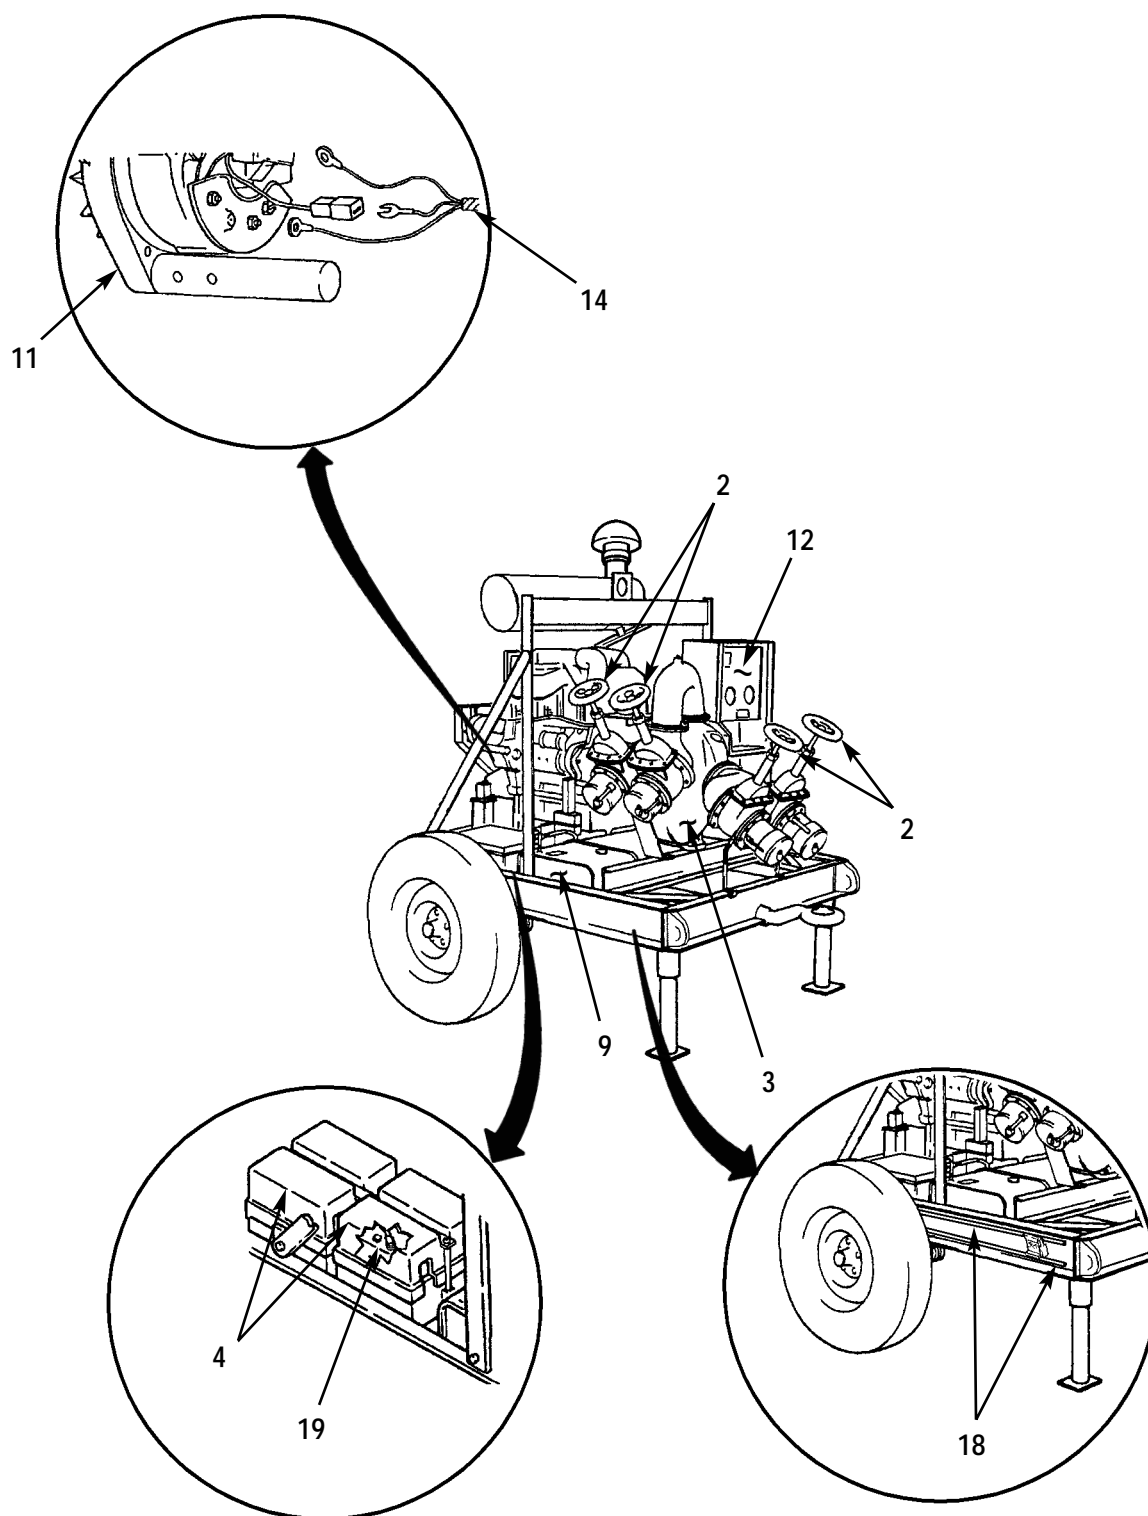

Figure 2-2. PMCS Locations (Right Side View).
- (1) *Item Number Column.* This column lists, in logical order of performance, the checks and services that are to be performed.
- (2) *Interval Column.* This column contains the time frame for which a required check or service is to be performed. A dot (.) is placed in appropriate sub-column(s) that contains a symbol identifying the time frame for which designated checks or services are to be performed. The symbol designations for the various time frames are as follows: B -Before; D -During; A -After; W -Weekly; M -Monthly.
- (3) *Item to be Inspected.* This column lists the part or group of parts to be checked and serviced. These parts are identified in figures 2-2 and 2-3.
- (4) *Procedures Check For and Have Repaired or Adjusted Column.* This column contains a brief description of the procedure by which the check is to be performed.
- (5) *Equipment Is Not Ready/Available If Column.* This column contains the criteria that will cause the equipment to be classified as not ready/available because of inability to perform its primary combat mission. The terms "ready/available" and "mission capable" refer to the same status -Equipment is on hand and is able to perform its combat missions (see DA PAM 738-750). Entries in this column will be keyed specifically to checks listed in the Procedure column. An entry in this column will:
The pumping assembly PMCS procedures are listed in Table 2-1. When filling out the "Item Number" column on DA Form 2404, Equipment Inspection and Maintenance Worksheet, use the number taken from Item No. column in Table 2-1 to record results of the checks and services. Item number also refers to index numbers on figures 2-2 and 2-3.